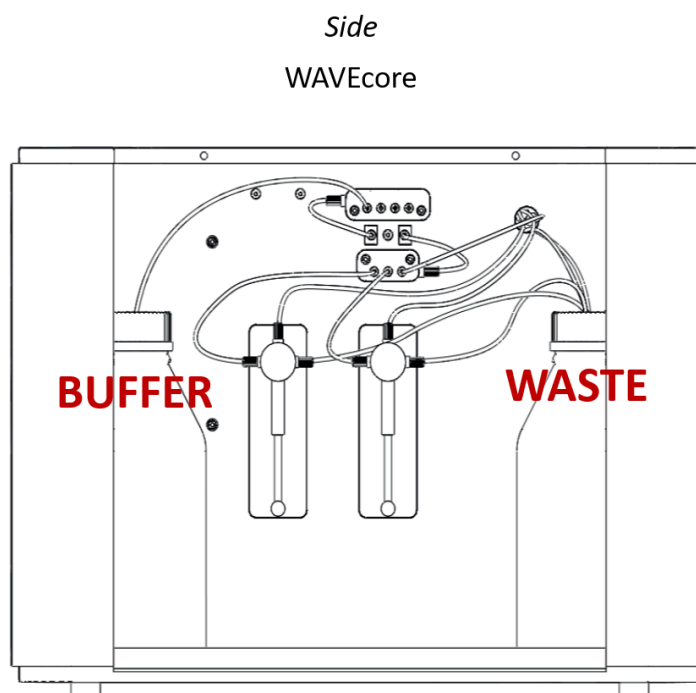

Figure 3. Buffer and waste bottles.
- Prepare **fresh, filtered and degassed** buffer in an appropriate bottle and connect to the buffer pump (Figure 3). (*As a rule of thumb, ca 200 mL of buffer are needed for the initial setup, and ca 300 mL to run a 7 points kinetics with 2 replicates. 25 mL per day are needed for Standby mode*).
- Make sure that the waste bottle is empty and connected to all the four waste tubes (Figure 3).